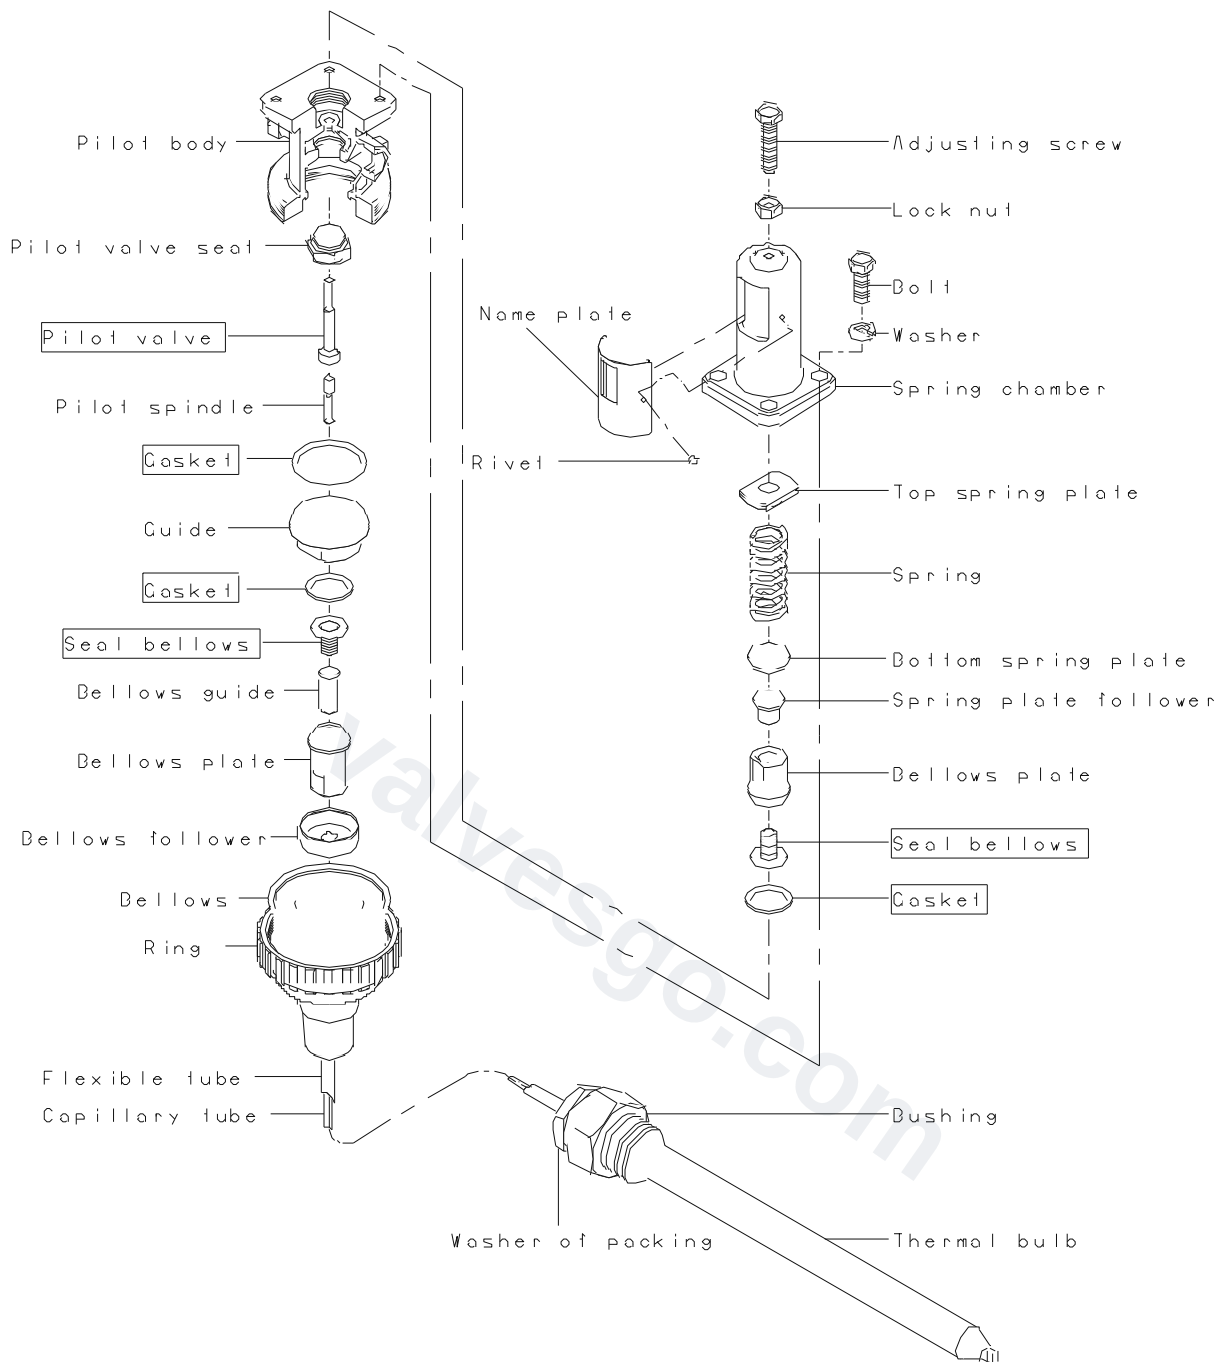

Fig.8
Disassembly should be made using the procedure described below, with reference to Fig.4 to Fig.8, and observe the step below.
(4) **Temperature regulator (OB-2000P) (9. 5 Disassembly drawing Fig.8)**